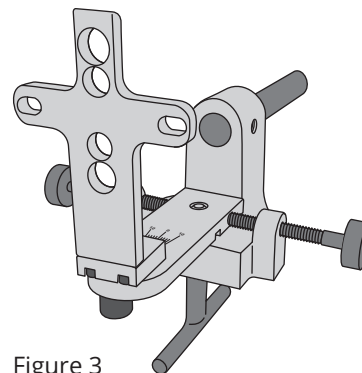

Figure 3
2. Attach the Transfer Fixture to your Hosmer VFJ (52056) by removing the fixture for the SACH foot adapter and replace it with the Transfer Fixture. This will allow adjustments on the VFJ and angle adjustment within the Transfer Fixture (Figure 3).
3. Attach the Adjustable Alignment Bracket to the Transfer Fixture by placing two M6 socket head screws through the slots in the Transfer fixture into the threaded holes 5 & 6 (Figure 3) in the Adjustable Alignment Bracket and tighten to prevent movement.